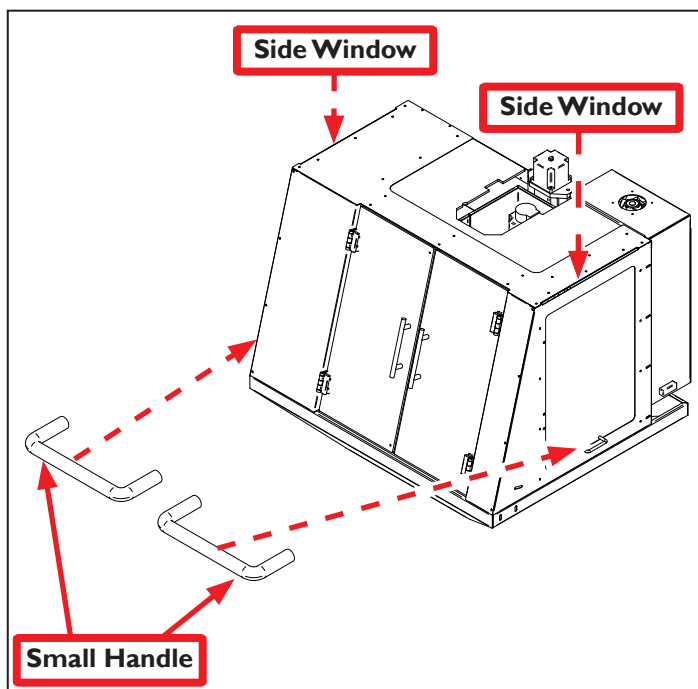

Figure 19
28. Remove protective film from two Side Windows and discard; slide both from above into two Side Gibs on either side of enclosure (see **Figure 19**).
29. Using two 8-32 x 1/2" Phillips Screws for each, attach two Small Handles to two Side Windows on left and right of enclosure (see **Figure 19**).